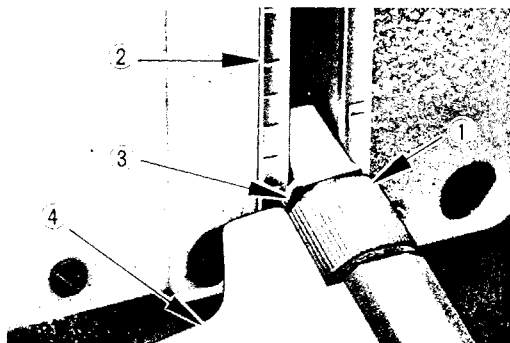
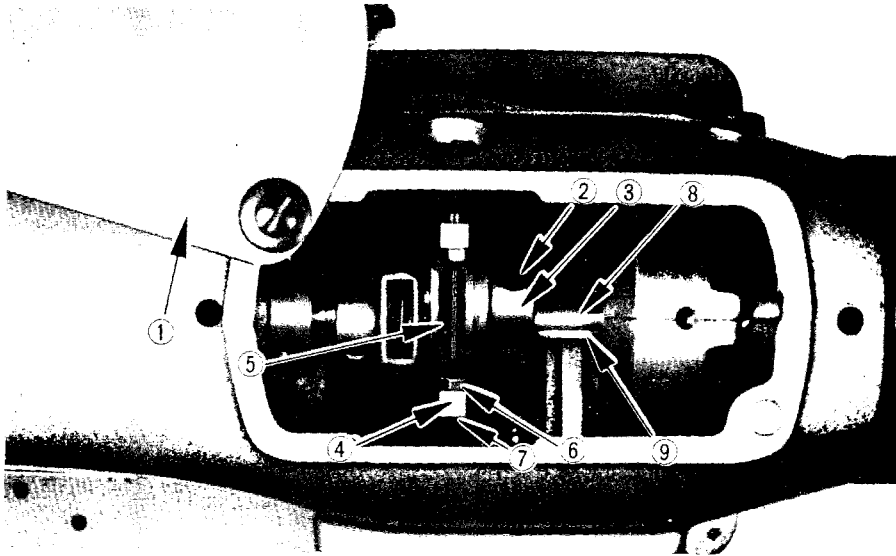

Fig. 12
Fig. 17
1. Place the stitch length regulating lever (④, Fig. 12) on the "O" on the plate (②, Fig. 12)
When adjustment is required, use the following procedure to change the position of the cam (③, Fig. 17):
1. Open cover plate (①, Fig. 17) and loosen two screws (②, Fig. 17).
2. Normally put the arrow mark of the cam (③, Fig. 17) on the V ditch (⑨, Fig. 17) of arm shaft (⑧, Fig. 17).
3. As fine adjustment, turn the machine pulley to place the needle at 1mm up from its lowest point and pushing the stitch length regulating lever (④, Fig. 12) up and down, turn the cam (③, Fig. 17) and set this at the point both the needle and the feeder rest.
Incorrect clearance between the fork (4, Fig. 17) of feed forked connection and feed fork collar (5, Fig. 17) will bring irregular stitch length or overheating, etc. To adjust this, open the cover plate (1, Fig. 17).
1. To increase the clearance, loosen the screw (7, Fig. 17) and turn the screw (6, Fig. 17) to the left or counter-clockwise.
2. To decrease the clearance, loosen the screw (6, Fig. 17) and turn the screw (7, Fig. 17) to the right or clockwise.